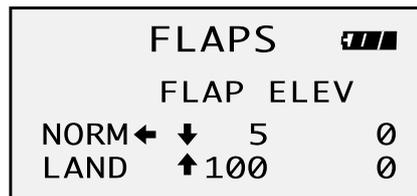

Fig. 14
1. Enter "Adjust list menu" » "Enter flaps scroll to flap – norm" » adjust to "5". Carefully observe the direction of the arrow. See [Fig. 14].
2. Scroll to "Flap-land" » adjust to "100". Carefully observe the direction of the arrow. See [Fig. 14].